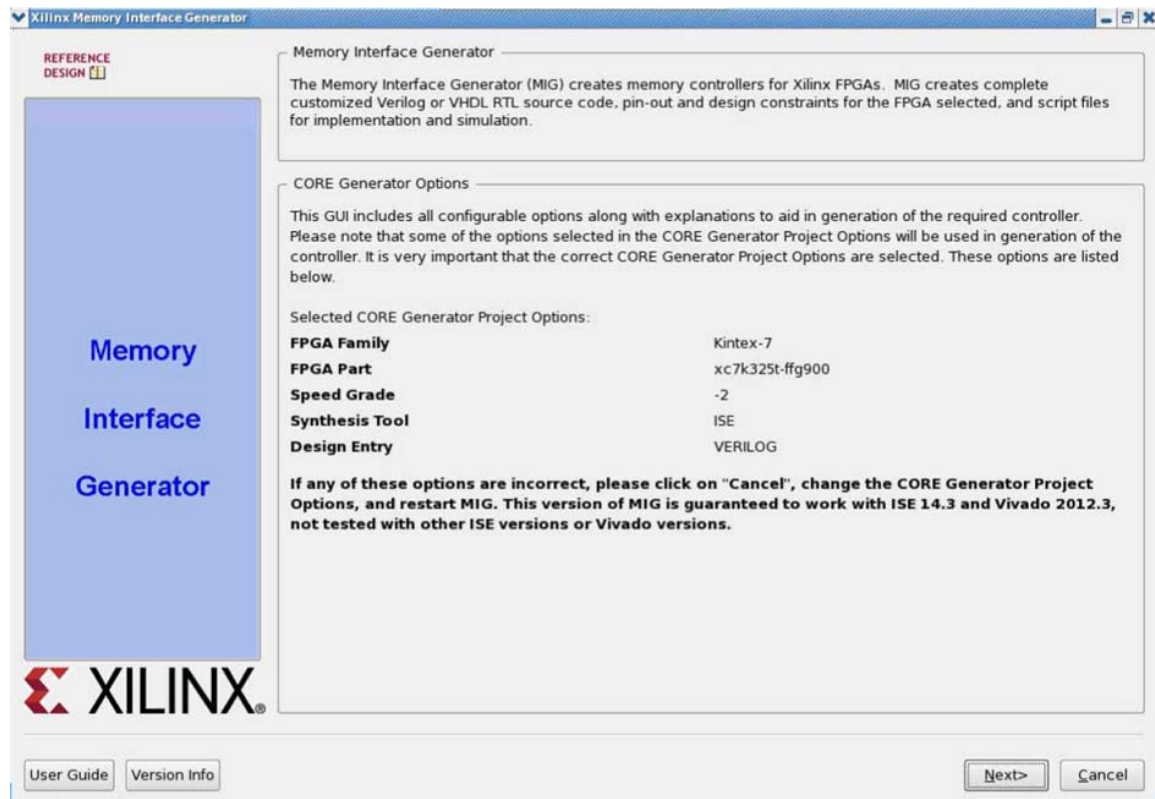

Figure 1-13: 7 Series FPGAs Memory Interface Generator FPGA Front Page
13. Select **MIG 7 Series** to open the MIG tool (Figure 1-13).